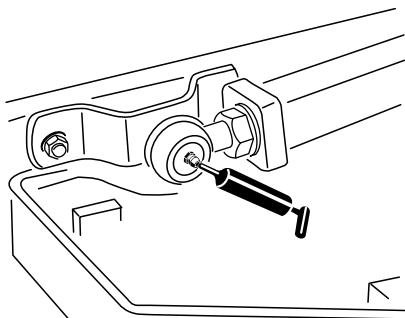

Figure 47
- Lift arm ball joints (2) (Figure 47)